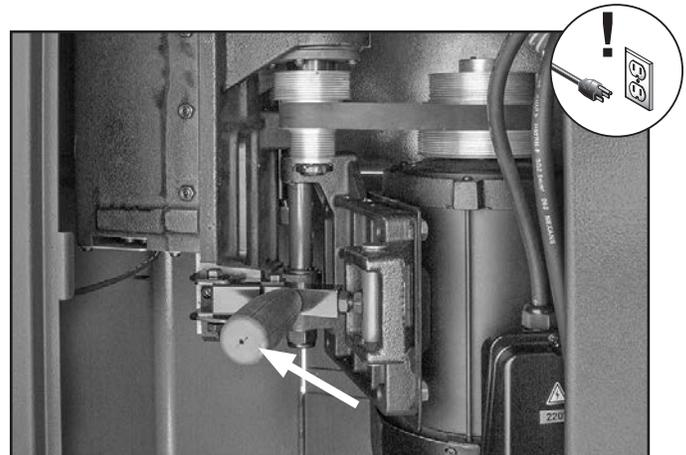

Figure 24. Location of motor bracket handle.
2. Open cabinet access door, then release belt tension by pulling the motor bracket handle (see **Figure 24**).